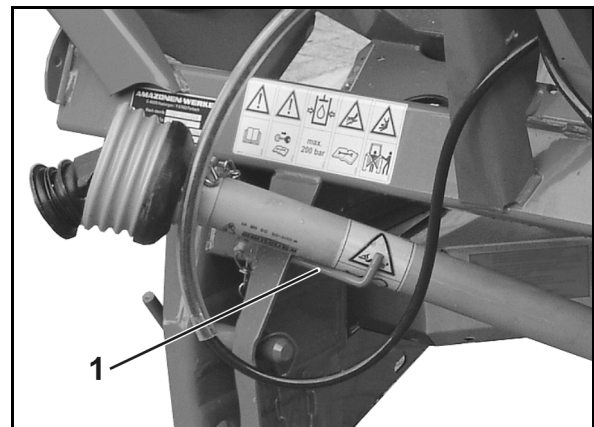

Fig. 35
5. Place the PTO shaft in the holder provided (Fig. 35/1).